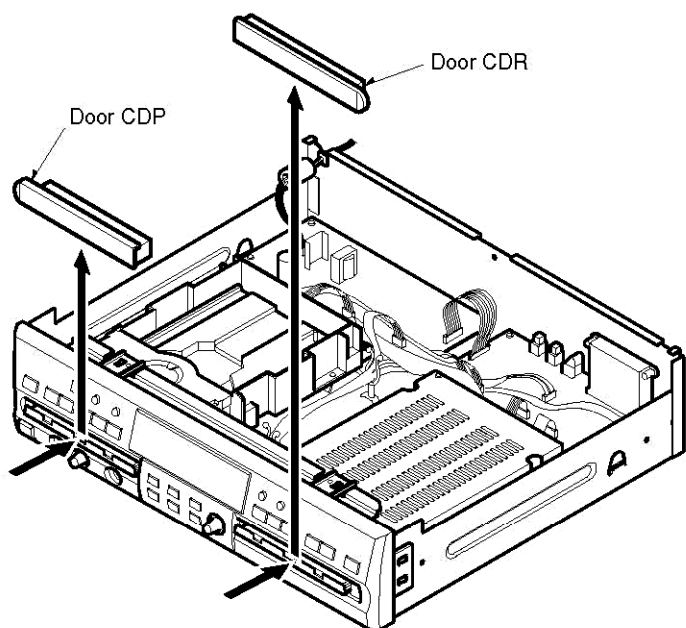

Fig. 2
- 2) Turn over the set to the original status, and remove the Door CDP and Door CDR in the direction of arrows. (See Fig. 2)
- 3) Push in the Tray Disc in the direction of the arrow. (See Fig. 2)